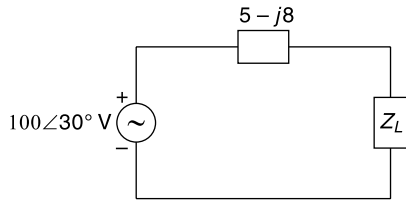

Fig. 14.79
14.89 For the circuit shown in Fig. 14.79 determine the power factor of the combined load if load impedance $Z_L = 15 \Omega$.